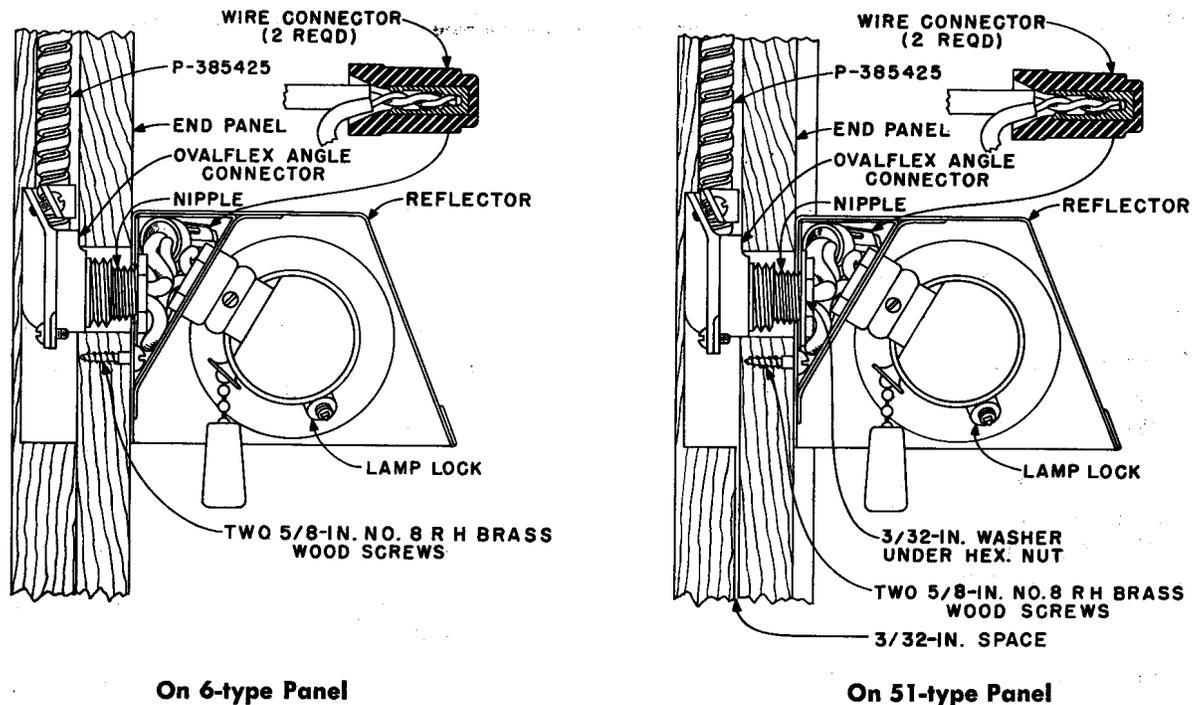

Fig. 10 — Installation of 2-type Light Fixture
- For 2B fixture, drill a 1-inch hole to accommodate ovalflex angle connector as shown in Fig. 10.